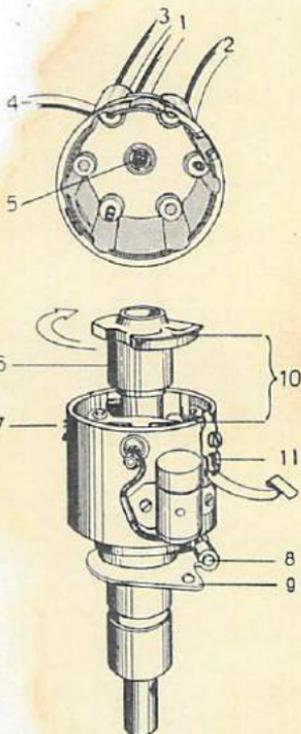

Fig. 28. Ignition Distributor
The ignition distributor is mounted to the right on the engine. The rotor is driven by the crankshaft via a worm gear and a pinion. It rotates clockwise and as shown in fig. 28, the firing sequence is 1—2—3 (No. 1 cyl. being the rear one).
2. The index of the rotor should now coincide with the index of the distributor body. This index is located on the rear side of the body and to the left of the guide lug which also serves as a support for one of the clamp springs. See fig. 28.
- a. Turn the crankshaft until the piston of cylinder 2 is  $10^\circ$  before T.D.C. (See item 3 above). Note, that the indexes on the rotor and distributor body should coincide, see fig. 28.
- b. Loosen screw 8, fig. 28, and turn the distributor until the breaker points open. Make certain that the advance regulator weights are retracted.